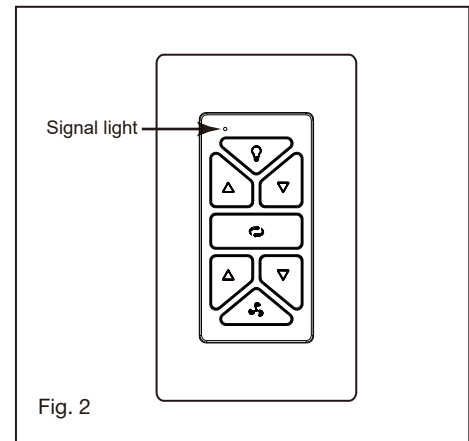

Fig. 2
- 3 Secure the adapter plate to the fan motor with 3 screws provided. (Fig. 2)
- 8 While holding the LED assembly under your fan, don't make the wire connections. (Fig. 2)
- 9 Raise the Bottom cover against the fan and turn clockwise until snug, DO NOT OVERTIGHTEN. (Fig. 2)
- 2 Seat the cradle A into the wall plate. (Fig. 2)
- 6 **Signal light** (Fig. 2)